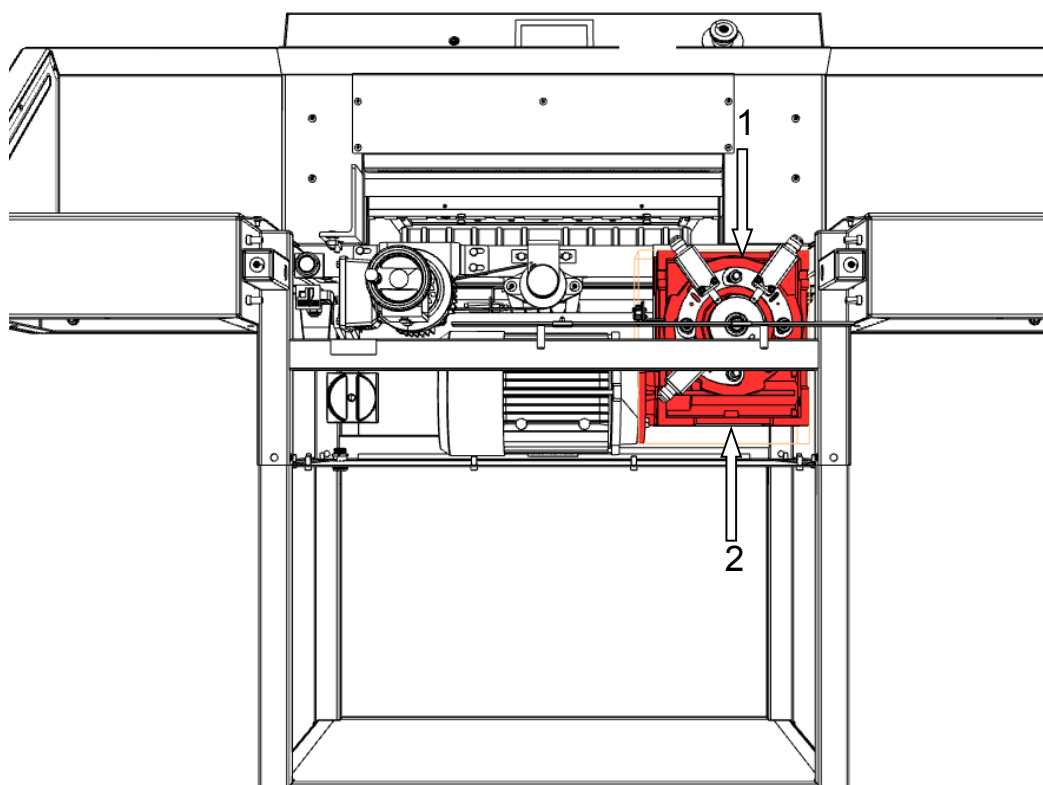

Figure 49. Oil change in the gear unit.
The worm gear reducers (Fig.49) and the pressure drive are filled with an exchangeable oil. The exchange should be made after 5 years of work. The use of GL-5 and / or MIL-L-2105D gear oil is recommended.
9.3.1.5 Unscrew the filler cap 1 (fig.49) and pour new oil (about 0.5 liters)